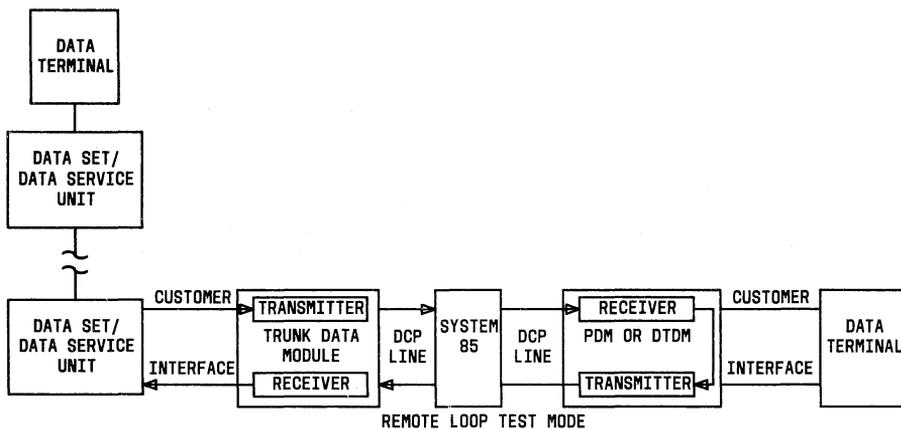

Fig. 11—Remote Loop Test Diagram
3.14 The remote loopback test (Fig. 11) is activated by placing the LOC LOOP/REM LOOP switch to the REM LOOP position during a call. Data trans-